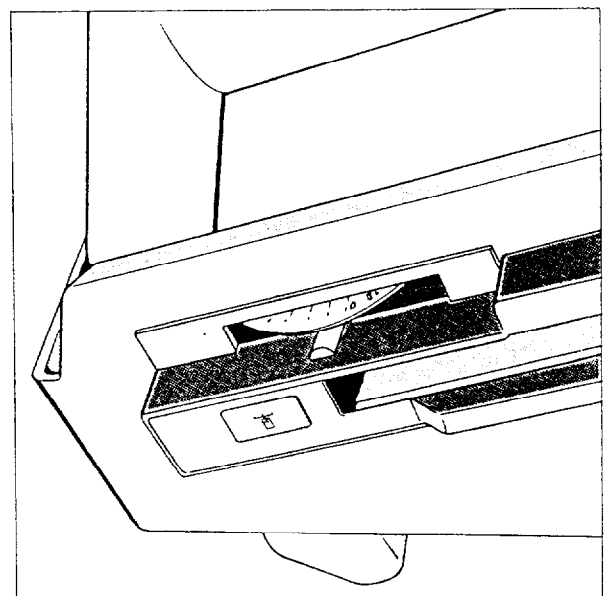

Fig. 6
*When doing this, take care to prevent the lever (Fig. 6) or the setting scale from being caught up by the tabletop, the cassette tray or the arm in front of the swivel piece.*